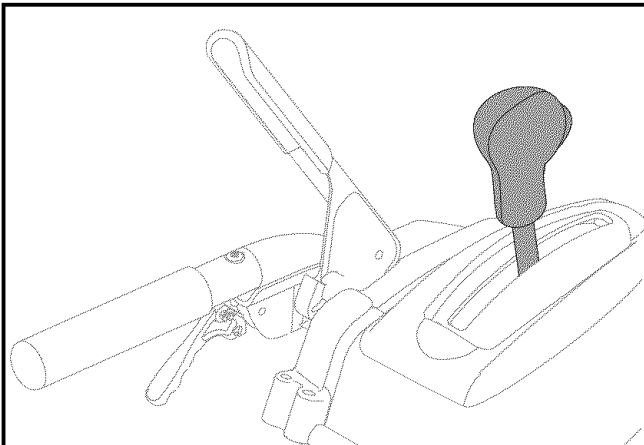

Figure 6
8. Place the 4-way chute control in a centered position. See Figure 6.